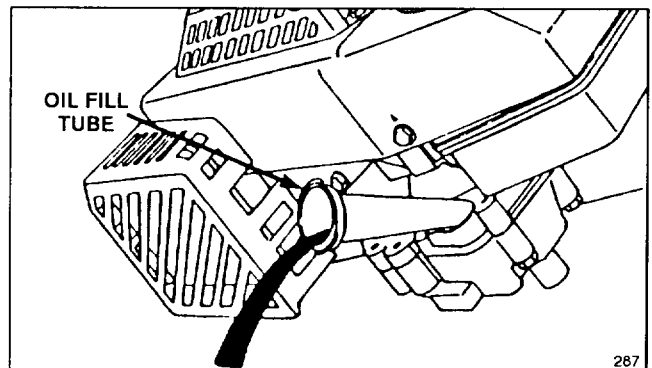

Figure 14
4. Tip mower on its left side, allowing oil to drain into drain pan (Fig. 14).